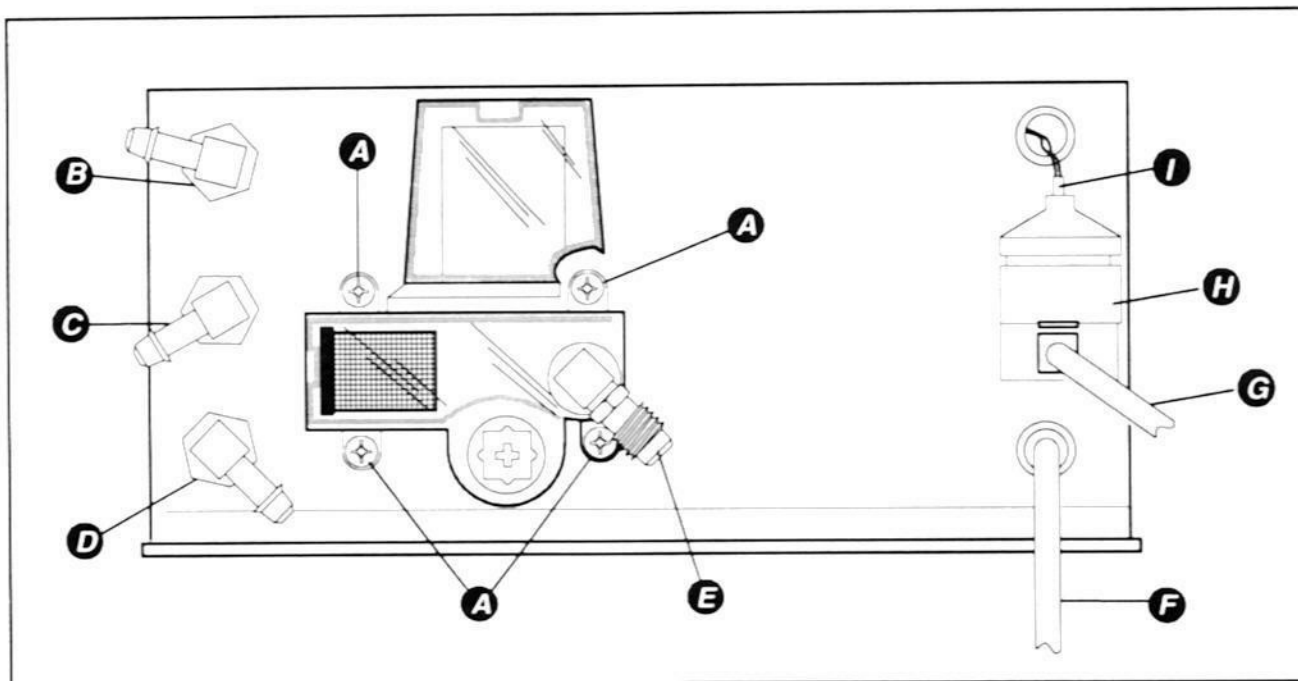

Figure 6-2
Tri-Filter Assembly (Figures 6-2 and 6-3)
1. To remove the filter housing from the bench, remove the four (4) screws (A) holding the filter housing in place (refer to Figure 6-2).